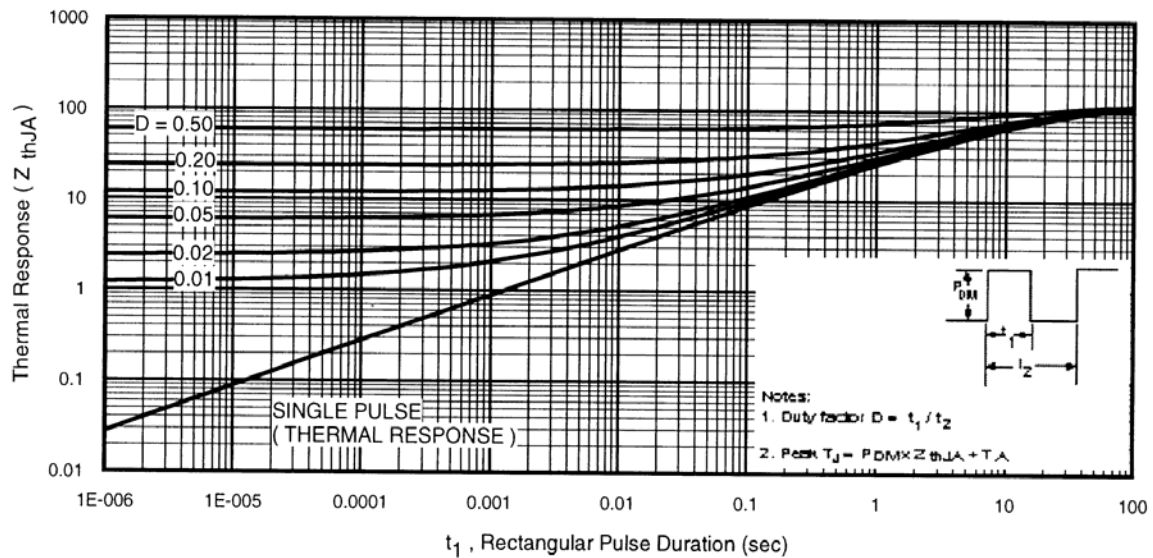

Fig 11. Maximum Effective Transient Thermal Impedance, Junction-to-Ambient
① Repetitive rating; pulse width limited by max. junction temperature (See Figure 11)
② $V_{DD}=25V$, starting $T_J=25^\circ C$, $L=16mH$